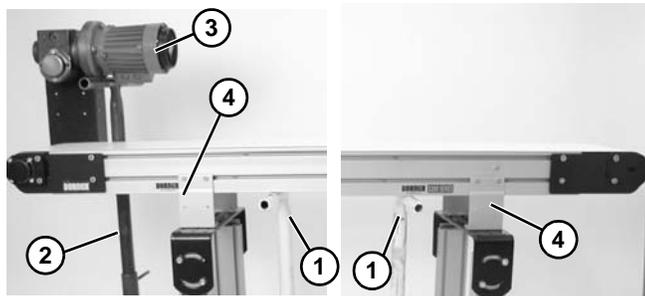

Figure 21
- Place temporary support stands (Figure 21, item 1) at both ends of the conveyor. Place an additional support stand (Figure 21, item 2) under the drive motor (Figure 21, item 3), if equipped. See WARNING.
- Remove mounting brackets (Figure 21, item 4) from one side of conveyor. (Reverse steps 3 & 4 of "Mounting Brackets" section on page 9).
- Ensure temporary support stands (**Figure 21, item 1**) are placed at both ends of the conveyor. Place an additional support stand (**Figure 21, item 2**) under the drive motor (**Figure 21, item 3**), if equipped. See WARNING.